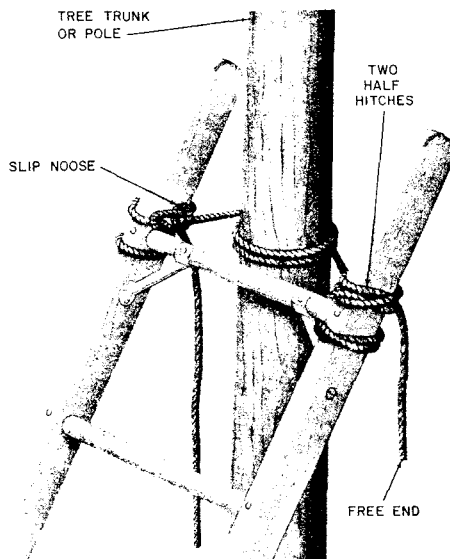

**Fig. 35—Lashing Ladder to Strand**
**9.08** When a ladder is placed against the strand and heavy work such as pulling or lifting is to be done, lash the ladder to the strand with a short length of rope, as shown in Fig. 35. Where the cable is supported in rings, pass the lashing rope around the strand only; where the cable is lashed, pass the lashing rope around the strand and cable. **Do not move the base of the ladder after the upper end has been secured to the strand.**